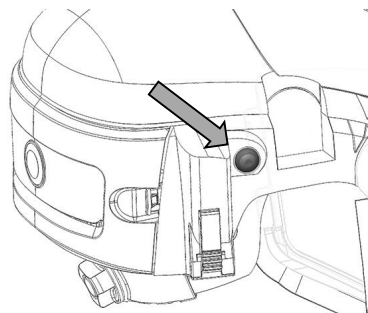

Figure 9
Activate the respirator by pressing the on/off switch shown in Figure 9.
Activate the respirator with the on/off switch as shown in Figure 9, noting the LED display. (Figure 9)
2. Activate the respirator with the on/off switch as shown in Figure 9 and perform the following test, noting the LED indicator.